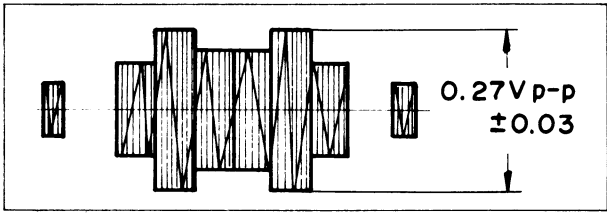

Fig. 5-70. Conv. out waveform
- Set the VTR to the recording mode and verify that there is no waveform distortion at 0.27 volt p-p  $\pm 0.03$  as shown in Fig. 5-70.